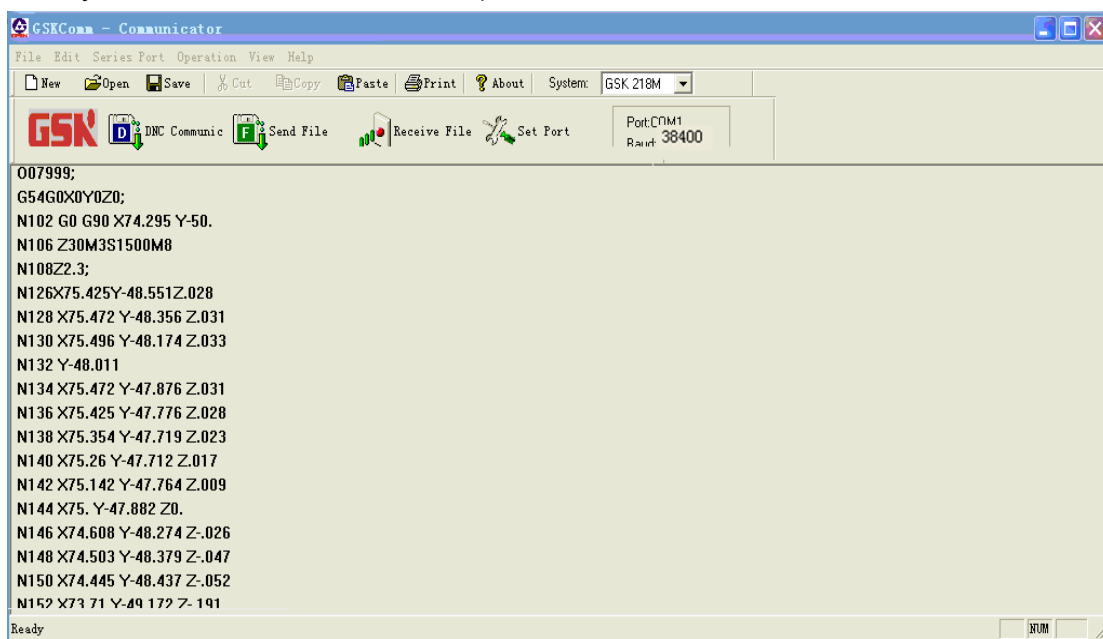

Fig. 11-1-4-1
3. Open CNC program files. Open the program files by pressing button "Open" in menu "File" or button  in the toolbar, as is shown in fig.11-1-4-1 below (further edit for the program files by serial communication software)
4. DNC transmission. Click  in the toolbar or pull-down menu "DNC Communic" in menu "Operation" to send the data. When the system I/O channel is set to 0, PC sends the files directly in a common way, then "DNC COMMUNICATION dialog displays the states of file sending, including the file name, sent bytes, sent lines as well as sent time and speed (byte/s), as is shown in fig. 11-1-4-2. When the system I/O channel is set to 1, PC sends